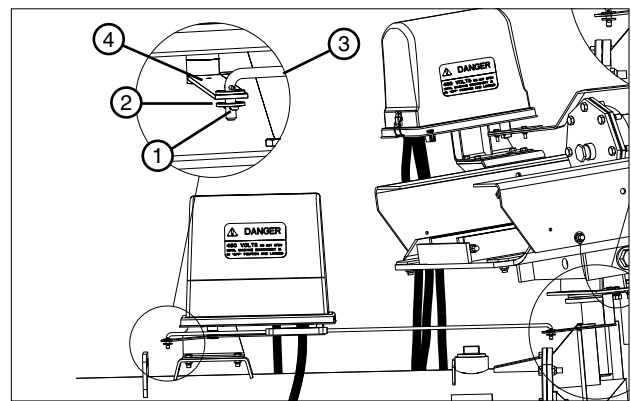

Figure 41-2 1. 1/8 x 1 Cotter Pin 4. Sprinkler Sequencing Box Control Arm
1. Remove 1/8 in x 1 in cotter pin with flat washer. See Figure 41-2.
3. With the machine running wet move sequencing box arm to fully extended position, confirming that all sprinklers are operating. See Figure 41-2.